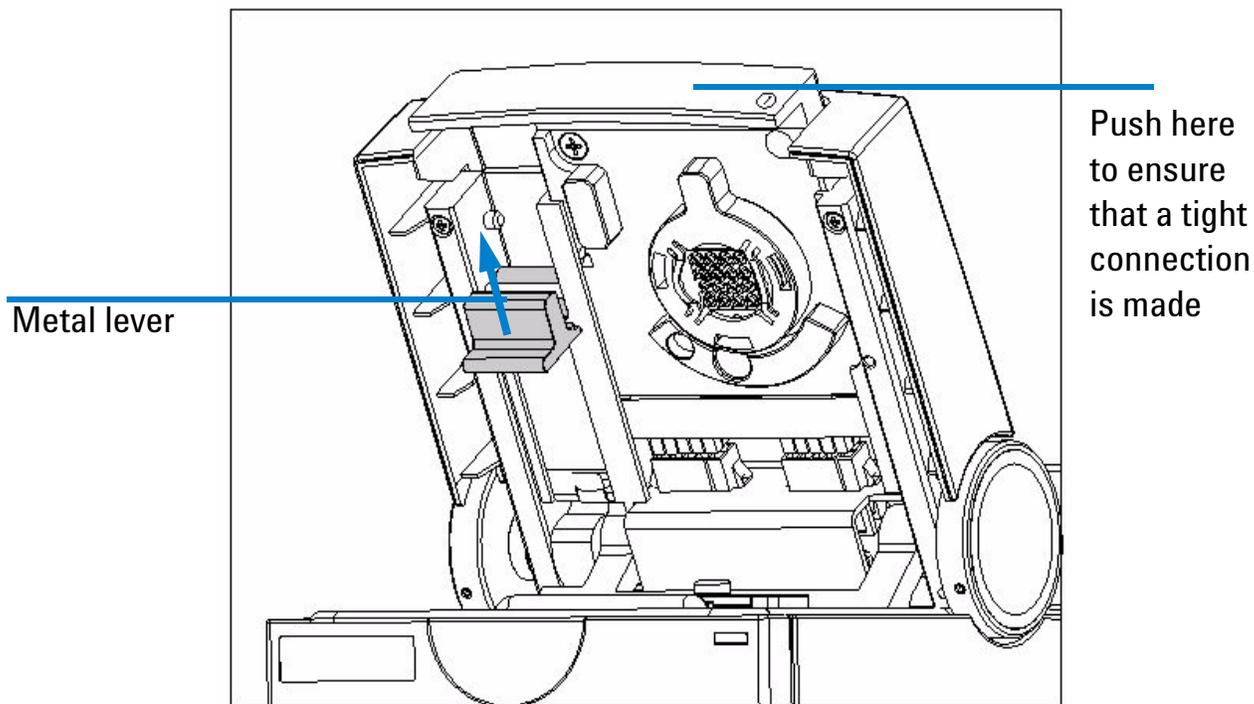

Figure 8 Inserting the Electrode Cartridge
- 12** Slide the electrode cartridge with the pin-set into the bioanalyzer lid as shown in Figure 8, “Inserting the Electrode Cartridge” and move the metal lever in the flat (closed) position.